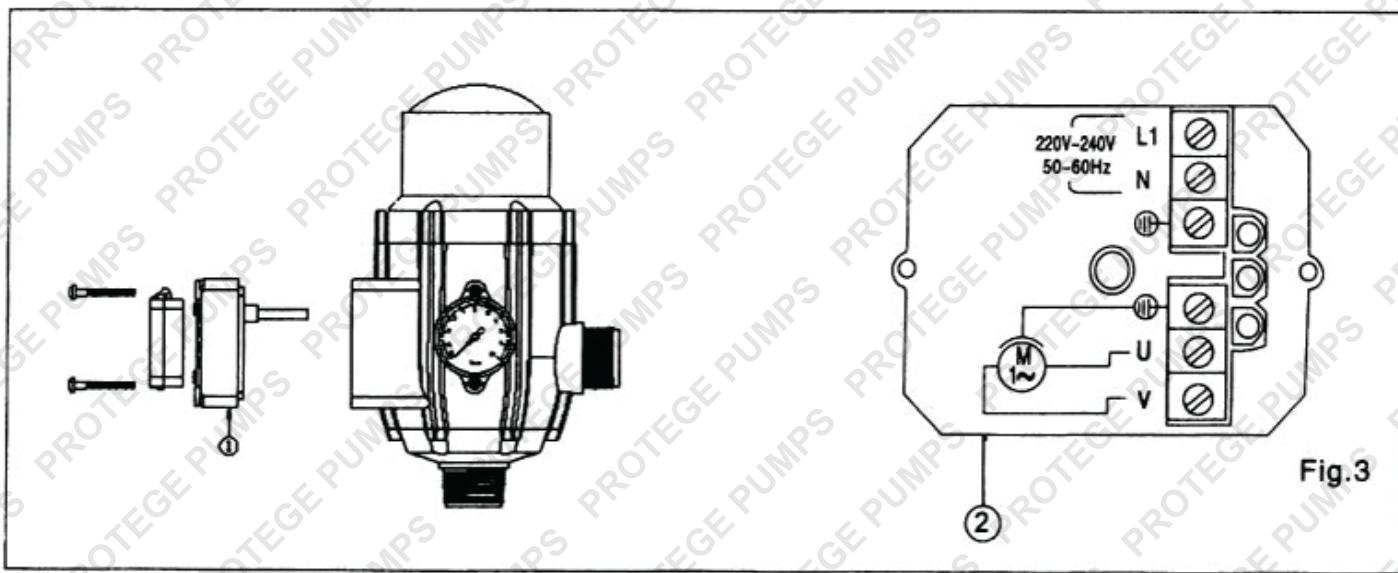

Fig.3
ELECTRIC CONNECTION (Fig.3)
- d). Incorrect electric connection on electronic board ②---check the connections according to Fig.3.